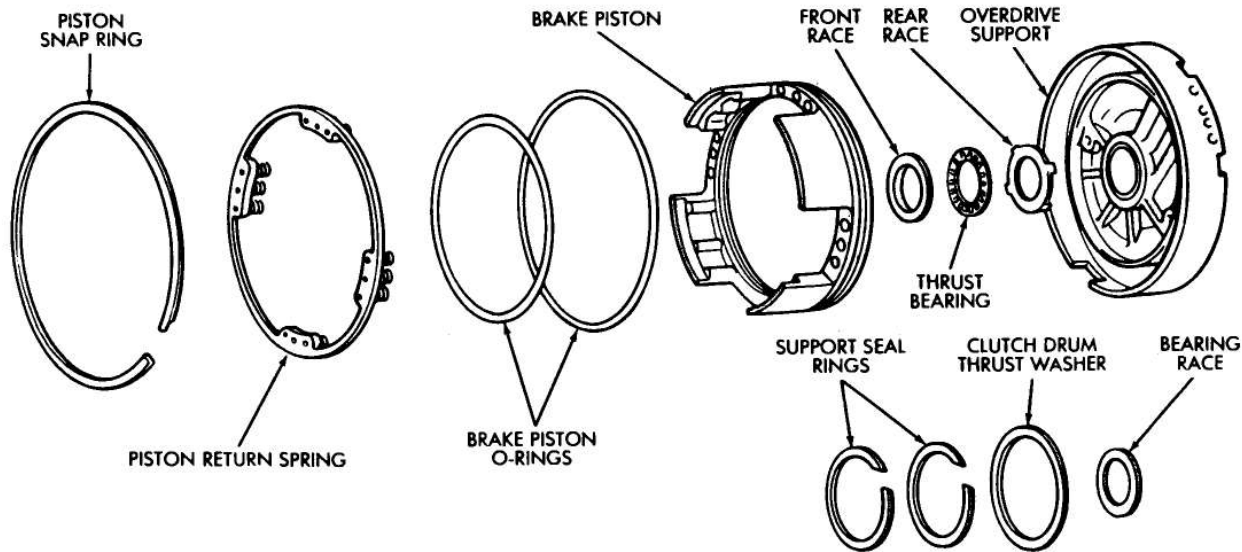
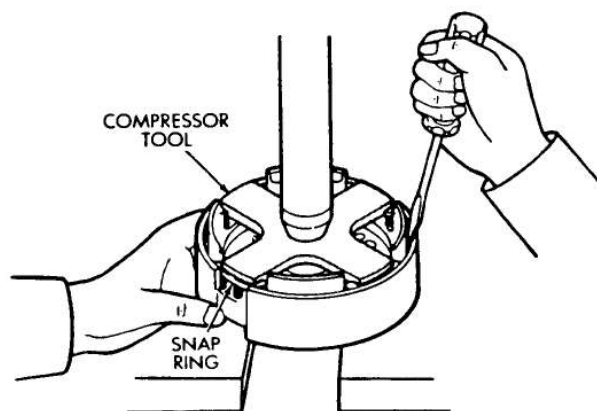
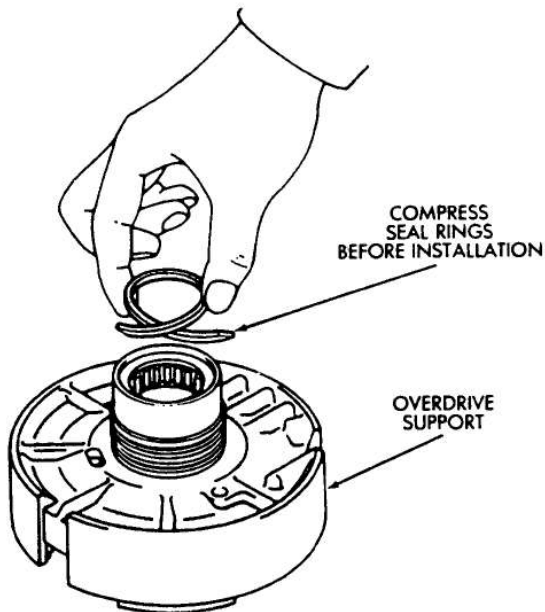

Fig. 1 Overdrive Support Components
Fig. 5 Removing/Installing Piston Snap Ring
Fig. 8 Installing Support Seal Rings
- (5) Compress piston return spring with tool B.Vi. FM. 26 and remove piston snap ring (Fig. 5).
- (6) Mount support in direct clutch and remove brake piston with compressed air. Apply air to same feed hole used when checking piston operation.
- (7) Remove and discard support O-rings (Fig. 1).
(1) Lubricate new support seal rings. Then compress rings and install them on support (Fig. 8).
(2) Lubricate and install new O-rings on brake piston. Then carefully seat piston in support.
(3) Install return springs on brake piston.
(4) Compress return springs with tool (Fig. 5) and install piston snap ring.